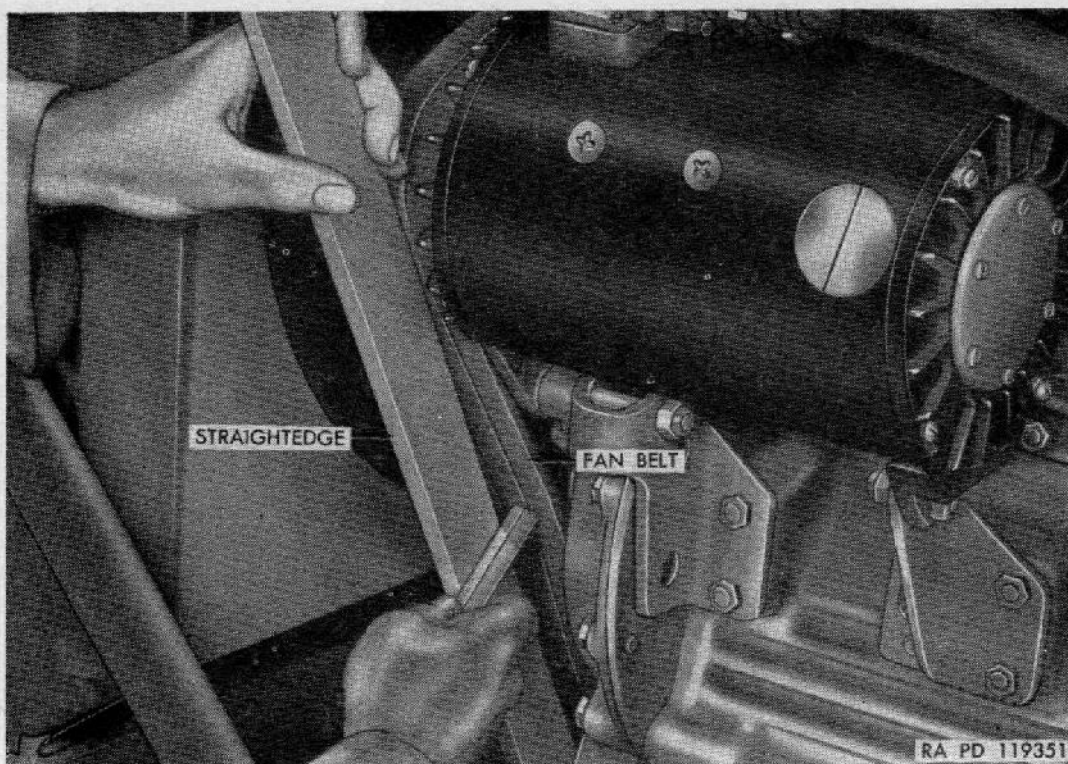

Figure 65. Generator, fan, and water pump belt adjustment.
c. FAN AND DRIVE BELT. A five-blade fan, mounted on fan-and-water-pump-pulley hub, is driven by two V belts from crankshaft pulley. The same belts also drive water pump and generator (fig. 65).
b. **DRIVE BELTS** (fig. 65).
- (1) *Adjustments.* Loosen two generator-to-mounting-bracket-bolt nuts. Loosen generator-to-adjusting-arm cap screw and move generator toward or away from engine, as necessary, to obtain correct belt tension. A light pressure on belts at a point midway between generator-and-water-pump pulleys must cause a $\frac{1}{2}$ -inch deflection (fig. 65). Tighten generator-to-adjusting-arm cap screw and then tighten two generator-to-mounting-bracket-bolt nuts.
- (2) *Removal.* Loosen two generator-to-mounting-bracket-bolt nuts. Loosen generator-to-adjusting-arm cap screw and